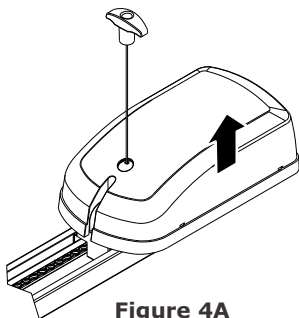

Figure 4A
- Remove the Drive Unit cover (Figure.4A) by pulling outwards and upwards, on both sides, at the location marked by the arrow.